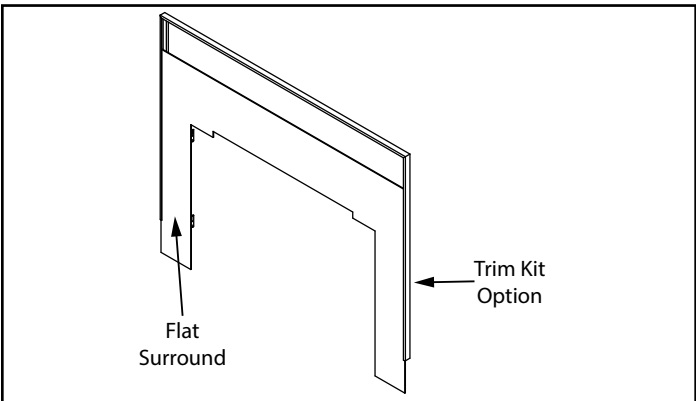

Figure 20.3
3. Slide trim over flat surround as shown in **Figure 20.3**.